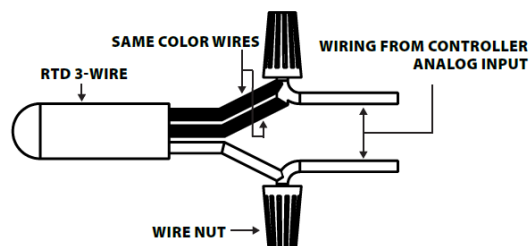

Figure 6
Open the cover of the enclosure. Carrier recommends 16 to 26 AWG twisted pair wires or shielded cable for all sensors. Signal wiring must be run separate from low and high voltage wires (24/120/230VAC). These Carrier thermistors and RTD temperature sensors are both non-polarity and non-position sensitive. All thermistor type units are supplied with (2) flying lead wires, and all RTD's are supplied with (2) or (3) flying lead wires – see Figure 6. The number of wires needed depends on the application.